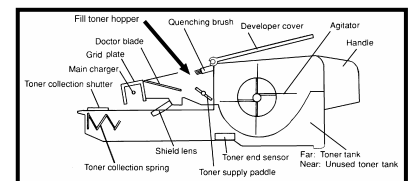

Figure 3
3. Flip the developer cover back (Fig. 3) and remove the two (2) screws holding the development roller. Lift the roller from the toner cartridge.